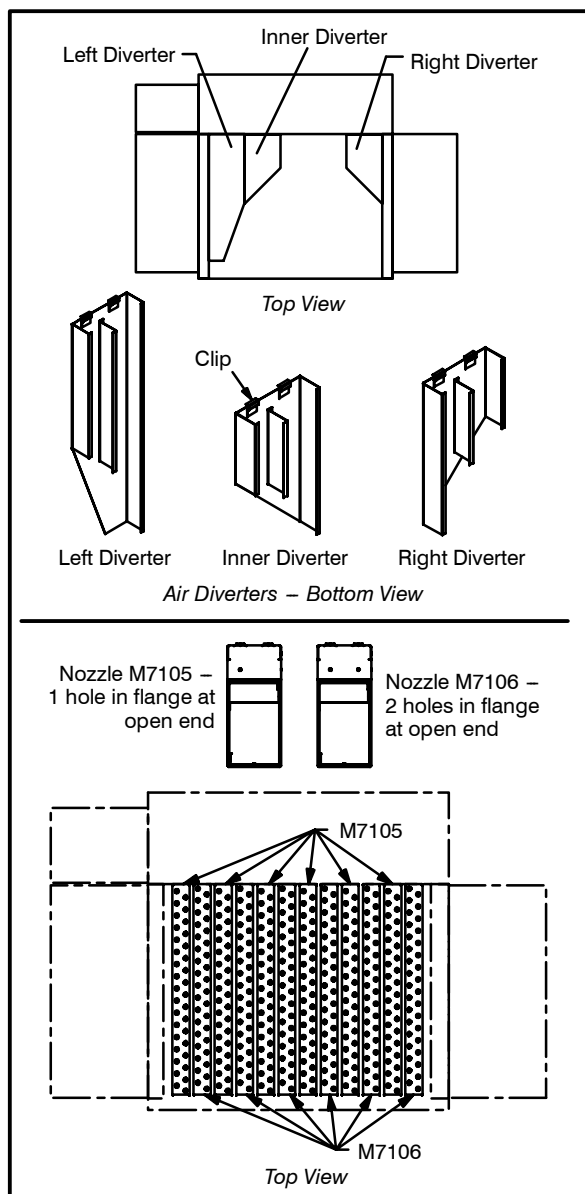

Figure 24
12. Reverse steps 1–7 to reassemble. Be sure the diverters and nozzles are installed correctly. Refer to Figure 24.